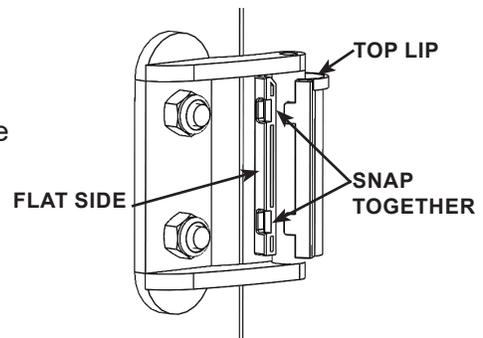

FIGURE 3.19 - Hinge Bushing Installation
STEP 2: Reinstall the hinge bushings with the larger end at the top. The top lip prevents the hinge bushing from sliding through the hinge assembly. Snap the two pieces together with the flat side of the bushings facing the cage door. See FIGURE 3.19